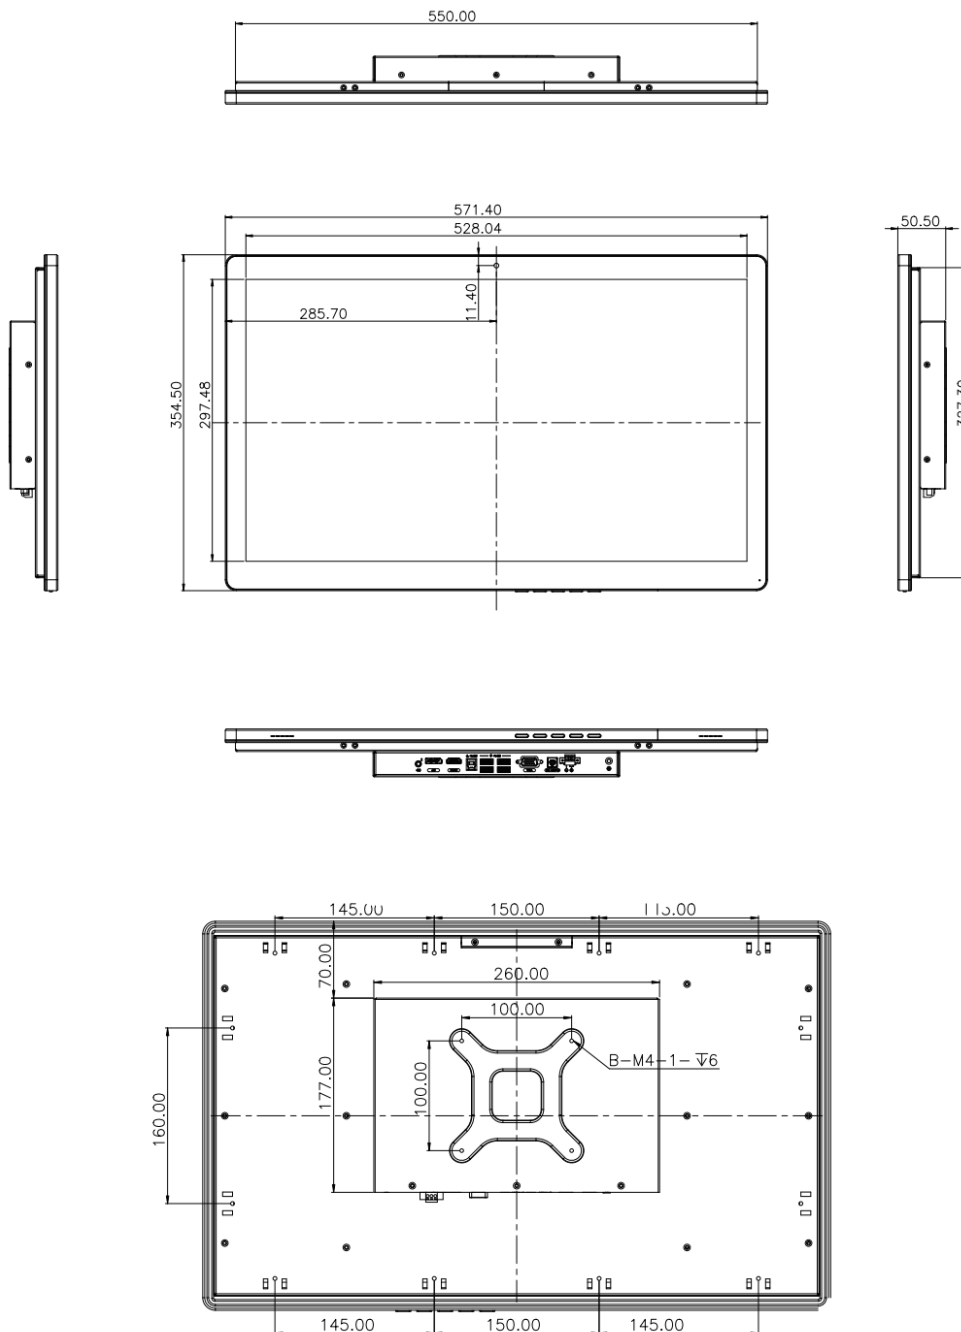

Figure 1-19: DM2-W238K(L) Physical Dimensions (Unit: mm)
1.9.13 DM2-W238K(L) Physical Dimensions
The physical dimensions of the DM2-W238K(L) are shown in the **Figure 1-19**.